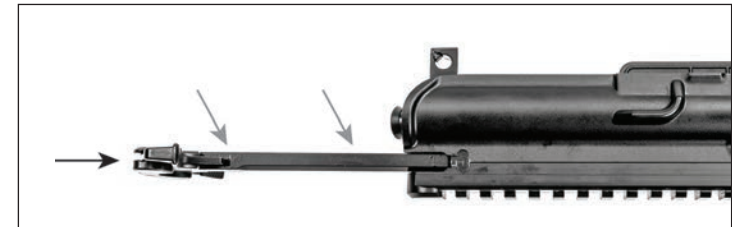

Fig. 37 – Charging Handle Installation
- f. Turn the upper receiver upside down, insert the charging handle into the upper receiver, align the lugs on the outsides of the charging handle with the recesses on the inside of the upper receiver then press down until the charging handle is flush with the inside of the receiver then press slightly forward (Fig. 37).